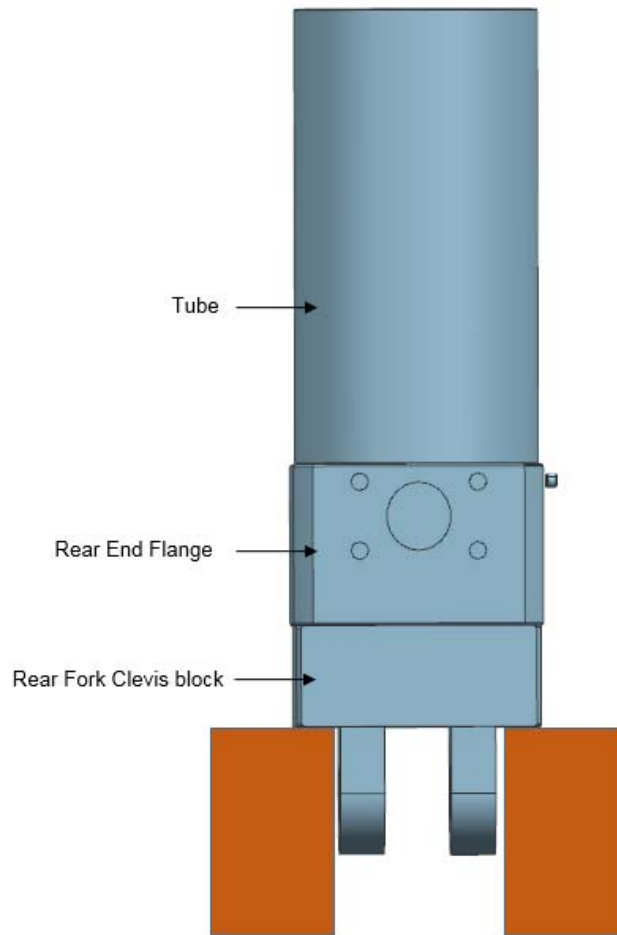

Figure 11 : Assembly Step-1
- Place the Rear End Fork clevis on two flat surface blocks and above that Rear flange with the tube with proper lubrication as shown in figure 11.